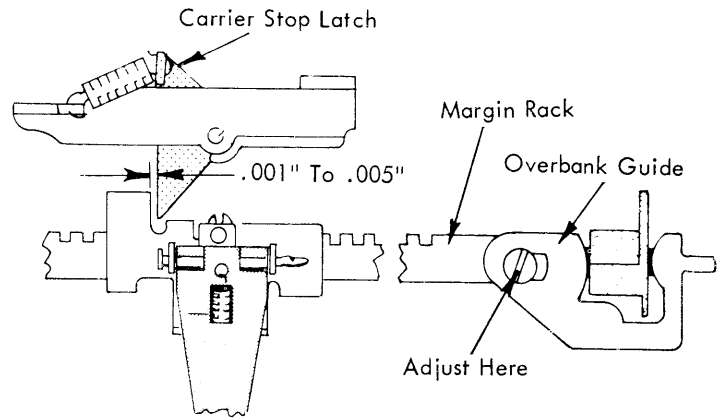

FIGURE 148. Margin Rack Overbank Guide Adjustment
7. Overbank Adjustment - With the carrier resting at the left margin stop, adjust the margin rack overbank guide (Fig. 148) left or right on the margin rack to obtain a clearance of .001" to .005" between the stop latch on the carrier and the left hand margin stop. The floating action of the stop latch must be removed, by pulling the latch to the right with a spring hook, before this clearance can be observed.